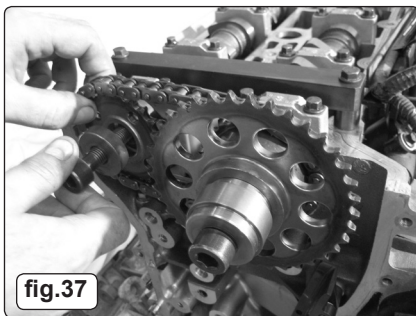

fig.37
- 4.8.3 Re-fit the camshaft gears together with the secondary chain. Screw in new gear bolts, finger-tight only, allowing the gears to turn, but not tilt (fig.37).